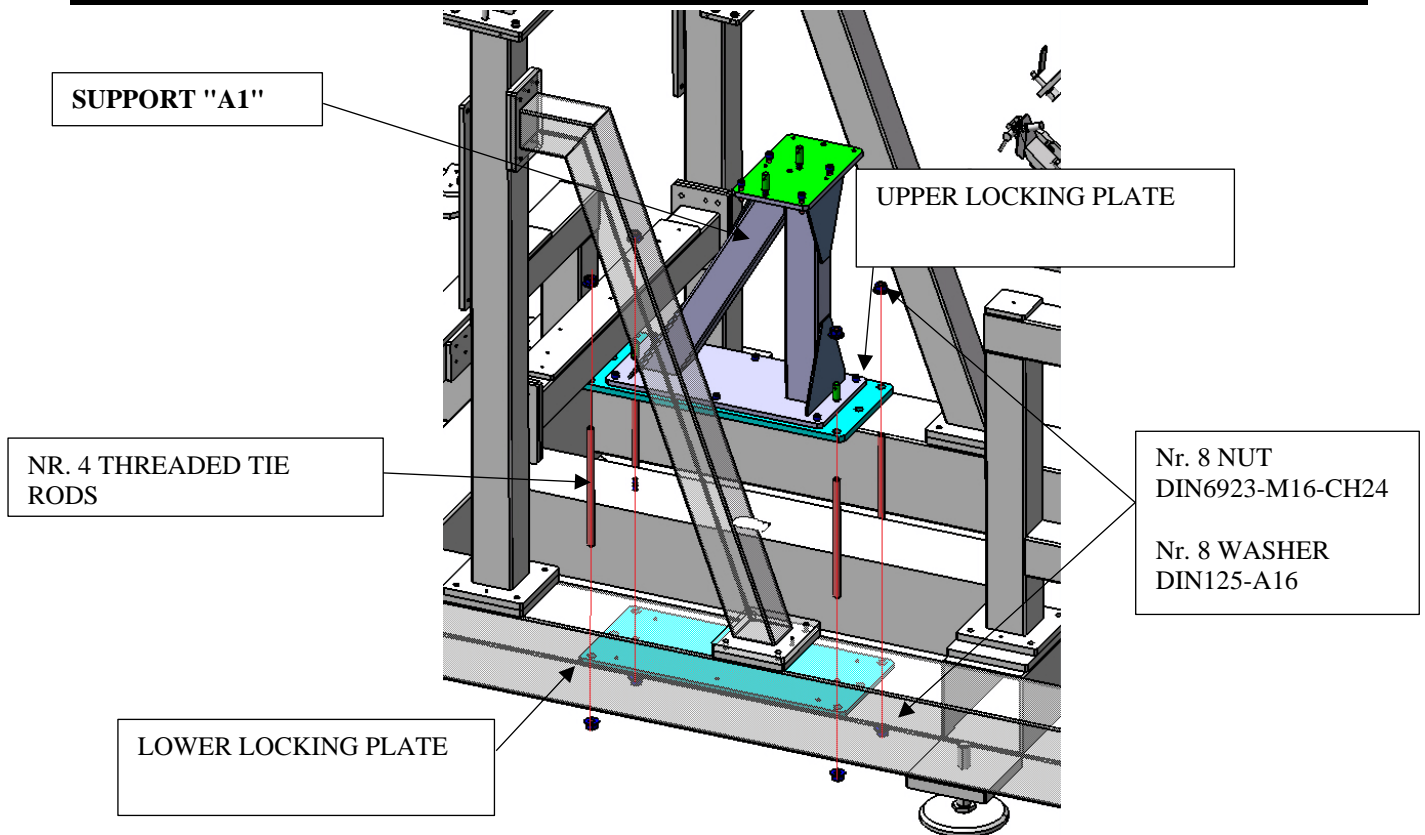
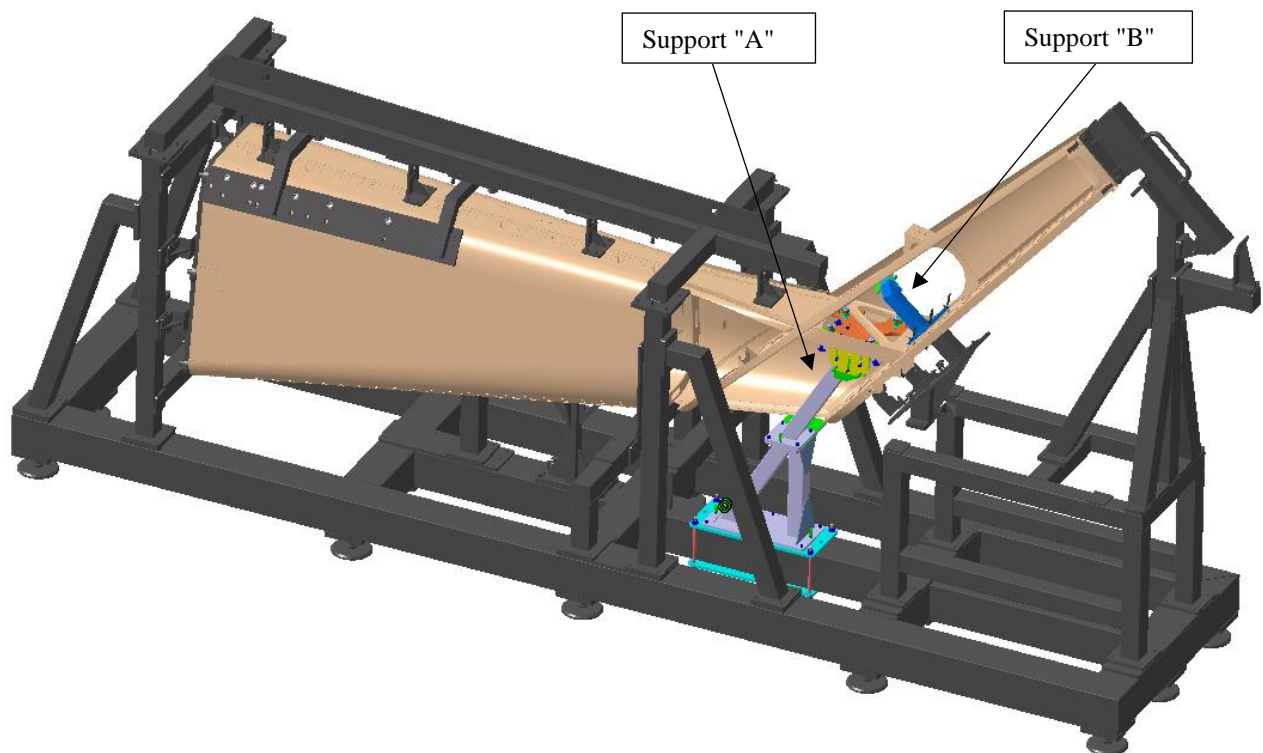

Figure 3: Locking plates Fixed support "A1" and fixing elements
**Figure 6: Offset measurements between the upper inner plate of the Tool Kit and the Tail Fin fairings.**
1. Position the Support A1 fixed part on the jig on the central upright of the existing Tail gate base structure by interposing the two locking plates and inserting and locking the 6 tie rods by tightening the 8 nuts + 8 washers supplied with the Kit (Fig.3). The plates must be positioned at a distance of approximately 1868mm from the rear crossbeam of the yard structure (Fig. 4). The exact position of the plates with respect to the slipway structure will be carried out in phase .2 with the tail beam inserted at the slipway and with the Support A2 installed.
- After positioning the removable A2 support, check that there are sufficient spaces for maneuvering and releasing it between the upper plate inserted inside the Tail Fin. The figure below (Fig. 6) shows the theoretical measurements obtained from the 3D model which approximately identify the offsets to be detected (for reference only, not binding for installation purposes). If it is necessary to center the indicated plate more in order to obtain the right gaps, it is possible to act by moving the whole Support "A" by slightly releasing the nuts of the tie rods of the locking plates indicated in Fig. 3 and tightening them again once the position has been found optimal.